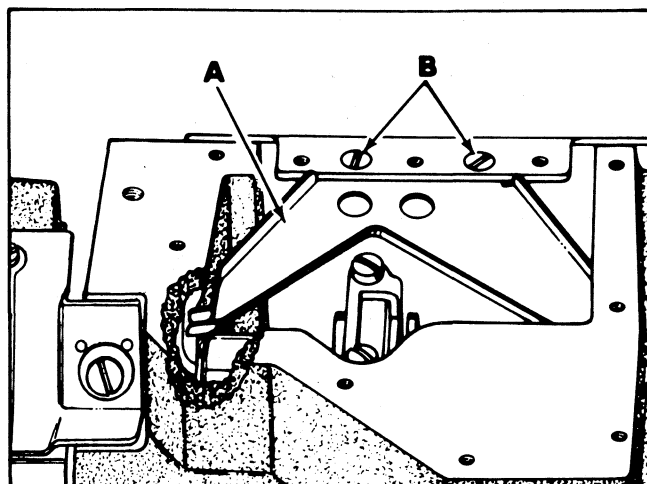

Fig. 21
The oil drip plate (A, Fig. 21) located in the oil reservoir should be positioned with its tip in the recessed cut out in the bed casting, as far to the left as possible without touching. It has elongated mounting holes and can be adjusted by loosening (2) screws (B) in top of the oil reservoir back cover to position as required, retighten screws.